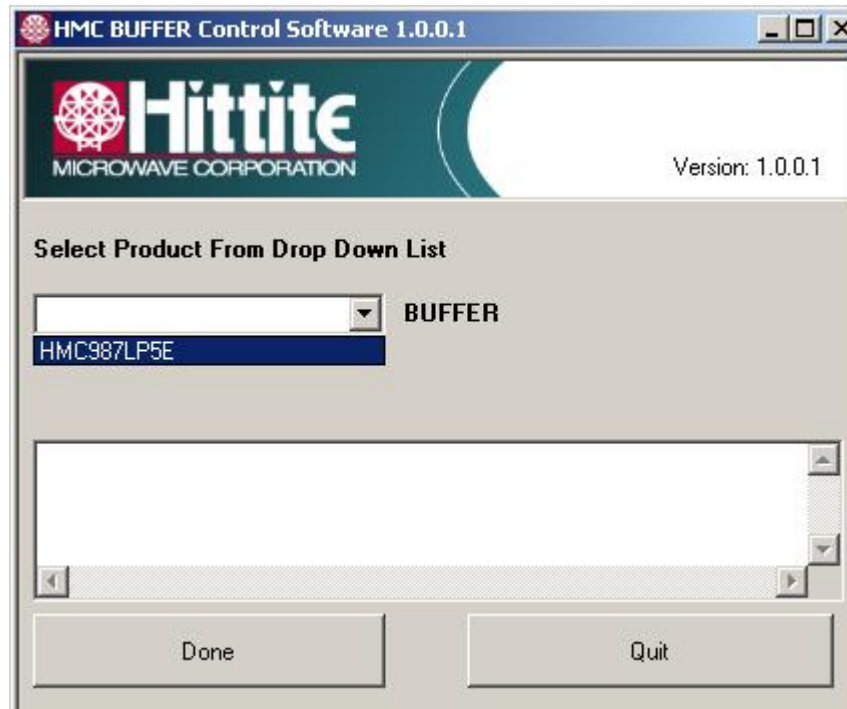

Figure 3. HMC FANOUT BUFFER Control Software
2. Launch HMC987LP5E Evaluation Software by selecting on "Hittite BUFFER Eval Software Vx.exe" from the Program Files menu of your computer. The main window should open. See Figure 3 below.